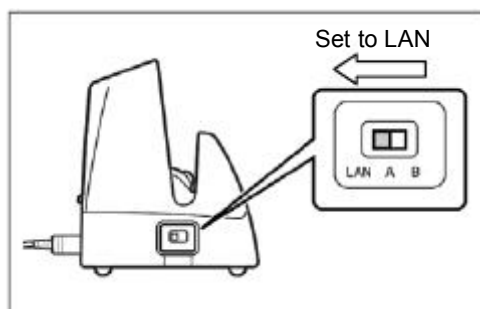

Figure 5.23
4. Make sure the selector switch on the back of the HA-F62IO Ethernet cradle is set to the position "LAN". See Figure 5.23 below.